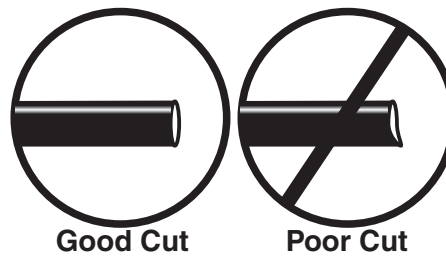

fig. 9
WHEN CUTTING OR TRIMMING THE AIR LINE, USE A HOSE CUTTER, A RAZOR BLADE, OR A SHARP KNIFE. A CLEAN, SQUARE CUT WILL ENSURE AGAINST LEAKS. DO NOT USE WIRE CUTTERS OR SCISSORS TO CUT THE AIR LINE. THESE TOOLS MAY FLATTEN OR CRIMP THE AIR LINE CAUSING IT TO LEAK AROUND THE O-RING SEAL INSIDE THE ELBOW FITTING (FIG. 9).
- a. Check the air line connection by deflating the spring and removing the line by pulling the collar against the fitting and pulling firmly on the air line. Trim 1" off the end of the air line. Be sure the cut is clean and square (see fig. 9). Reinsert the air line into the push-to-connect fitting.